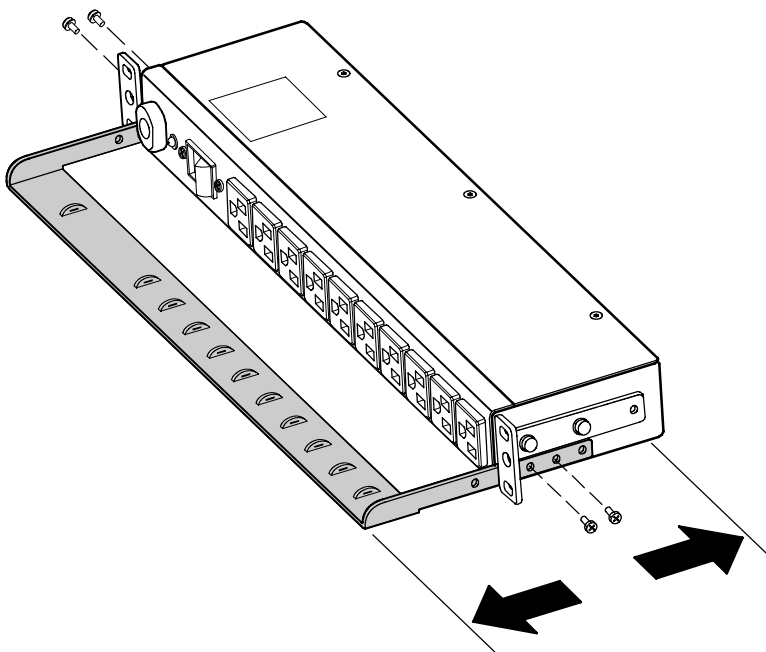

Figure 8. Cord Retention Bracket (PW101BA1U001 Shown)
2. Slide the cord retention bracket onto the sides of the ePDU. Align the holes in the cord retention bracket with the screw holes on the ePDU (see Figure 8).